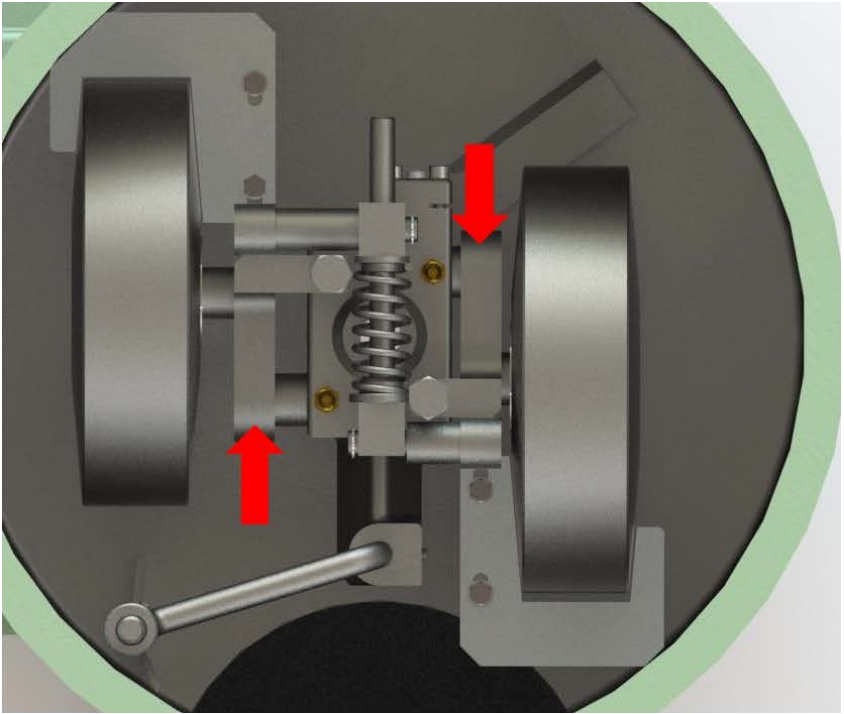

Figure 7: Rocker Arms
- Lubricate the rocker arms (Figure 7) by injecting grease into the zerk fittings located on each rocker arm mounting. Inject grease until some starts to come out of the mounting next to the zerk fitting.